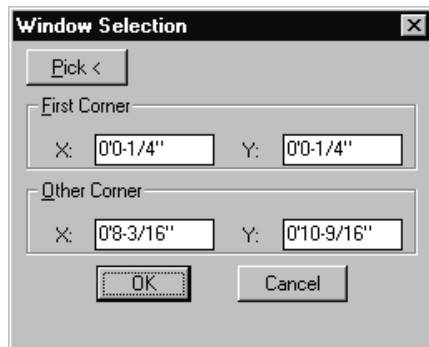

Figure 2-125
4. As soon as you pick the second corner, the Window Selection box pops up again in LT 98, as shown in Figure 2-125. Pick **OK** to exit back to the Print/Plot Configuration dialog.